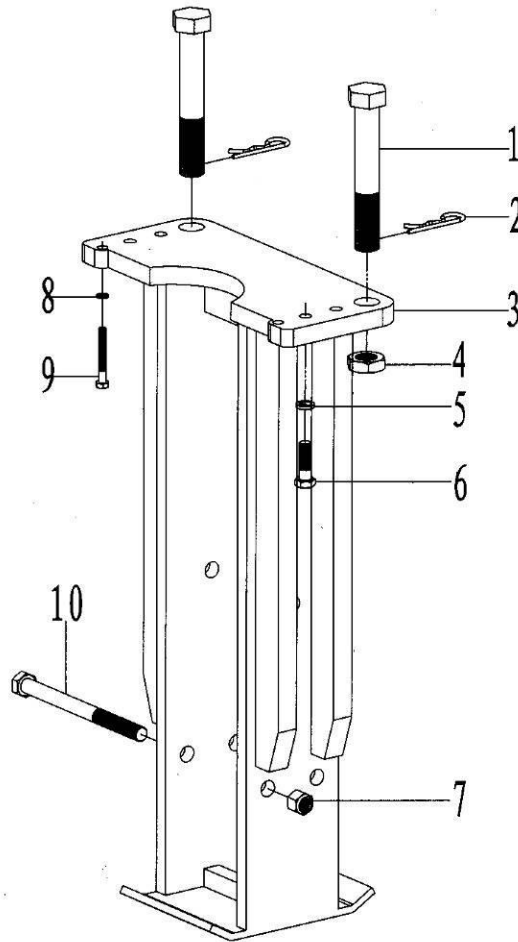

Fig 30
7.30 Back seat assembly (Fig 30, Table 30)